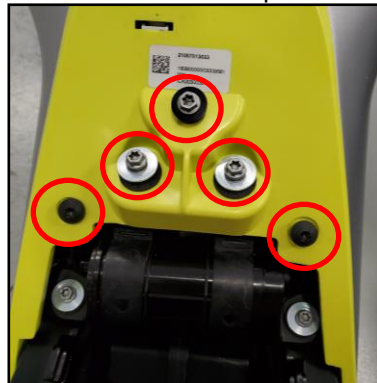

Fig. 17
20. Slide the rear tank cover down from the top and install the mounting bolts to 3 Nm (Figure 17).